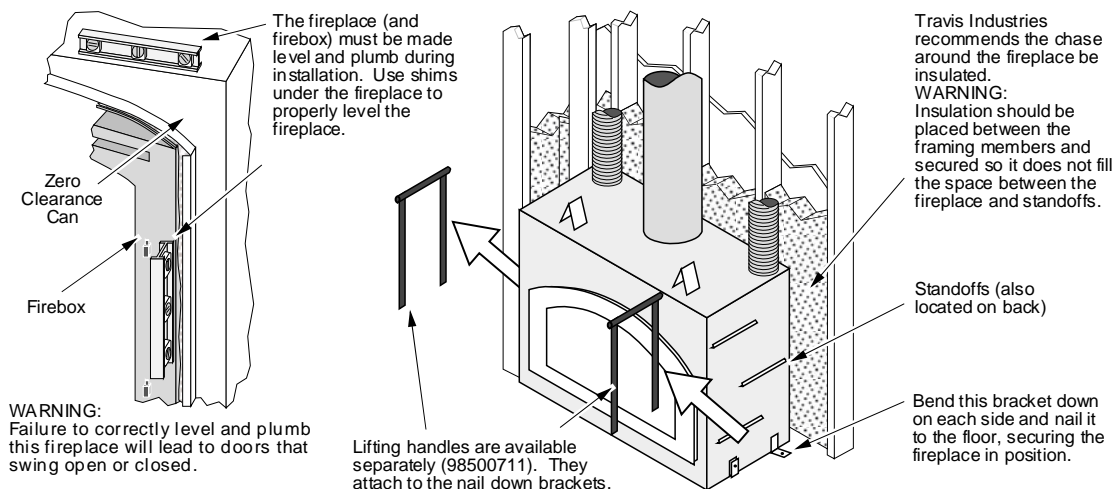

Figure 8
- The fireplace must be secured to the floor (use the lifting handle brackets - see Figure 8).